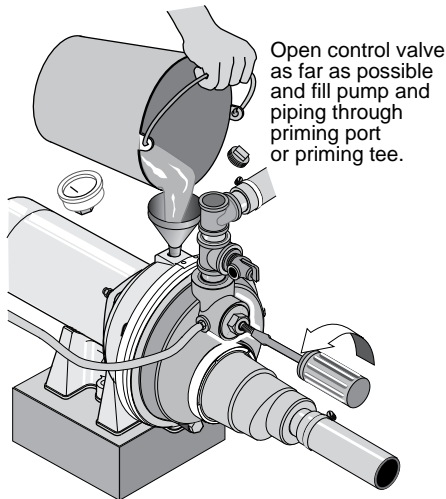

Figure 21: Open Control Valve
1. Open the control valve as far as possible (see Figure 21). Then remove the priming plug from the pump and fill the pump, fill all piping between the pump and the well, and make sure that all piping in the well is full. If you have also installed a priming tee in the suction piping, remove the plug from the tee and fill the suction piping.